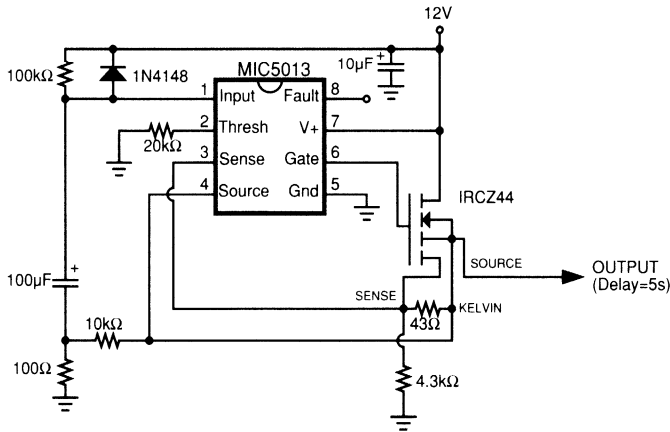

Figure 12. Time-Delay Relay with 30A Over-Current Protection
**Time-Delay Relay** (Figure 12). The MIC5013 forms the basis of a simple time-delay relay. As shown, the delay commences when power is applied, but the 100 kΩ/1N4148 could be independently driven from an external source such